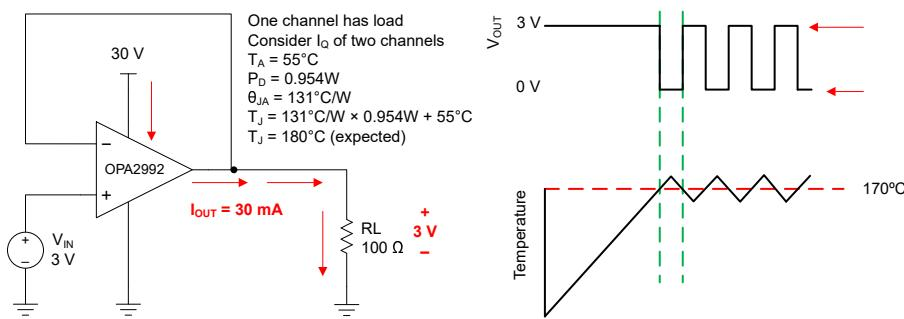

Figure 6-4. Thermal Protection
The internal power dissipation of any amplifier causes its internal (junction) temperature to rise. This phenomenon is called *self heating*. The absolute maximum junction temperature of the OPAX992 is 150°C. Exceeding this temperature causes damage to the device. The OPAX992 has a thermal protection feature that reduces damage from self heating. The protection works by monitoring the temperature of the device and turning off the op amp output drive for temperatures above 170°C. Figure 6-4 shows an application example for the OPA2992 that has significant self heating because of its power dissipation (0.954 W). In this example, both channels have a quiescent power dissipation while one of the channels has a significant load. Thermal calculations indicate that for an ambient temperature of 55°C, the device junction temperature reaches 180°C. The actual device, however, turns off the output drive to recover towards a safe junction temperature. Figure 6-4 shows how the circuit behaves during thermal protection. During normal operation, the device acts as a buffer so the output is 3V. When self heating causes the device junction temperature to increase above the internal limit, the thermal protection forces the output to a high-impedance state and the output is pulled to ground through resistor R_L . If the condition that caused excessive power dissipation is not removed, the amplifier will oscillate between a shutdown and enabled state until the output fault is corrected. Please note that thermal performance can vary greatly depending on the package selected and the PCB layout design. This example uses the thermal performance of the SOIC (8) package.